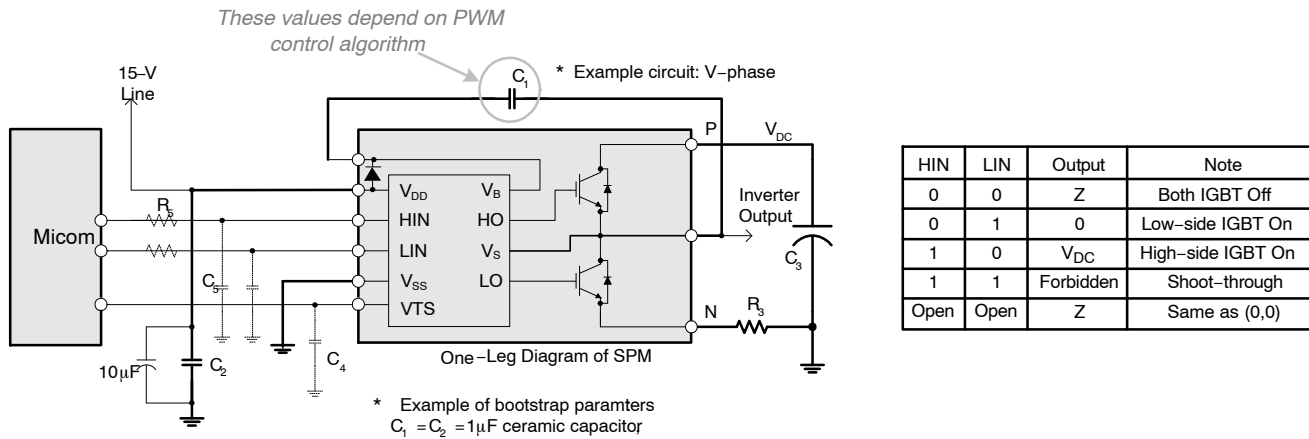

**Figure 2. Built-in Bootstrap Diode Characteristics (Typical)**
- Built in bootstrap diode includes around  $15\ \Omega$  resistance characteristic. Please refer to Figure 2.